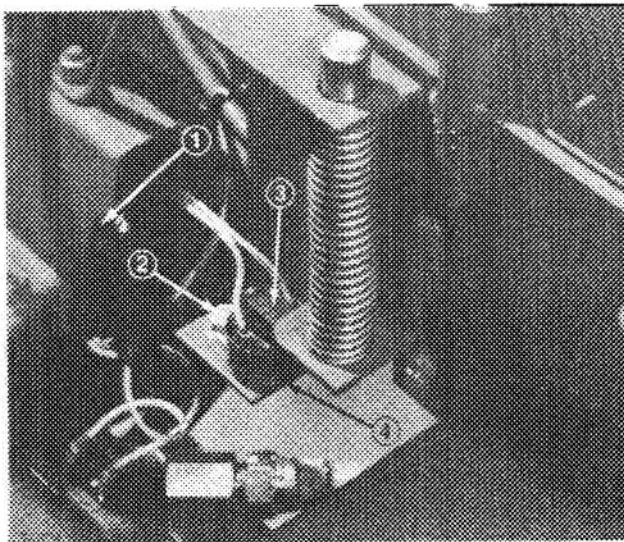

Figure 42
2. (Model 30741 only) Remove (4) flange screws and (2) locknuts securing sealing plate to frame above fuel tank. Remove sealing plate.
3. Remove instrument cover, disconnect negative battery cable from battery, and separate wire harness connectors (Fig. 42). Remove capscrew and locknut (Fig. 42) and lift switch up to disengage locating pin on bottom of switch from hole in mounting bracket.
4. To install new switch, set it on mounting bracket (Fig. 42) and assure locating pin on bottom of switch fits into hole in bracket. Secure switch in place with capscrew and locknut.